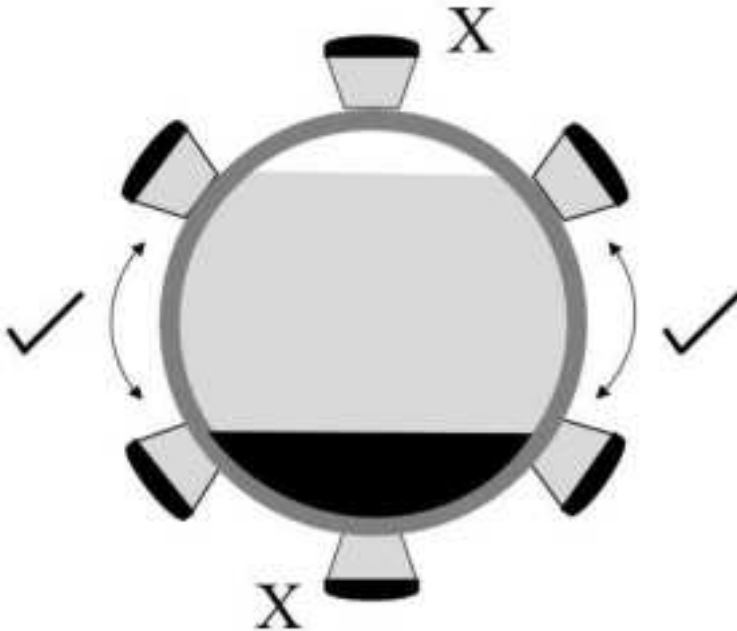

Figure 2: above shows the recommended positioning on horizontal pipes.
- On horizontal pipes, it is preferable to mount Flow Pulse between 1 o'clock and 5 o'clock position on the pipe to avoid air pocket on top or sedimentation on the bottom, as illustrated in Figure 2: